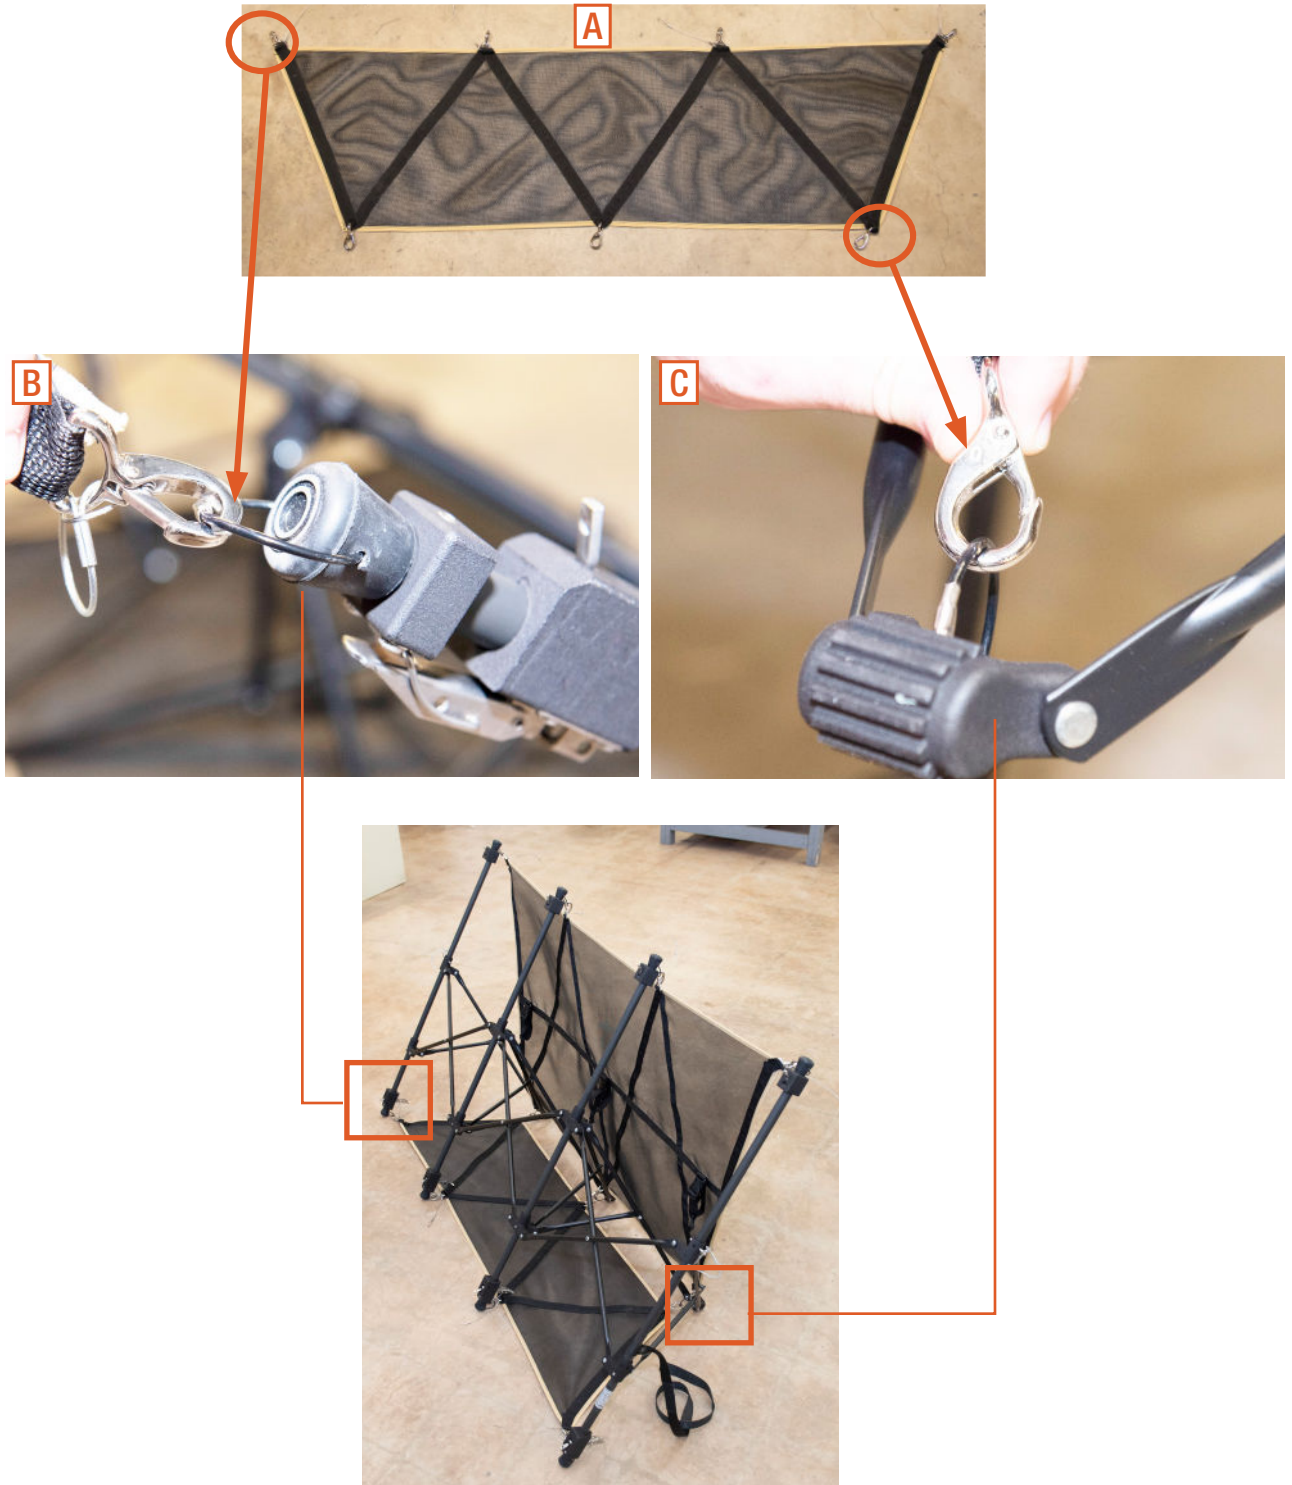
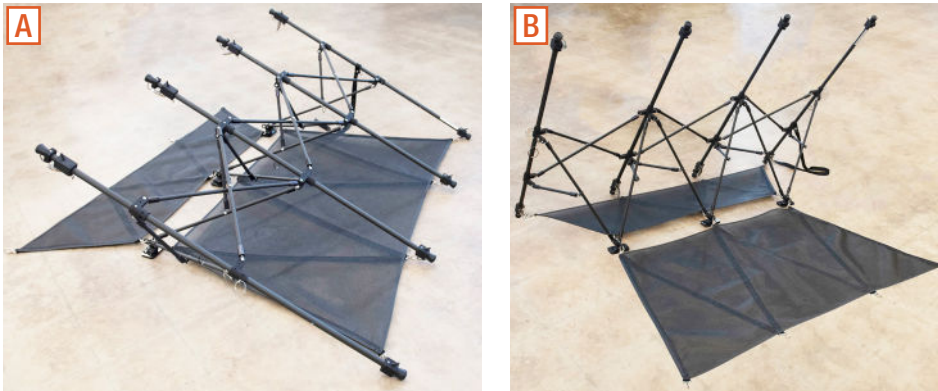

Figure 4. 60° Mesh Hold Down installation
Figure 5. Ground-securing Mesh configuration for 30° and 60° Array deployment
Connect the large and small Meshes as shown in Figure 5 to deploy the Array at 30° (A) or at 60° (B).
Configure the Mesh for the desired angle of deployment (Figure 4 & Figure 5). Ensure the Array is oriented for maximum energy harvesting and that the Solar Cable will reach the Power Hub. Generally speaking, the lower angle (30°) will harvest energy more efficiently in the summer when the sun is overhead. During the winter, the steep angle (60°) will be more efficient.